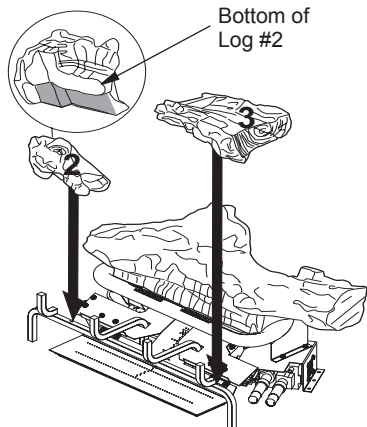

Figure 22 - Installing Logs #2 and #3
2. Place left bottom log (#2) onto base assembly as shown in Figure 22, page 18. See detail in drawing for contour on bottom of log. Log will fit over metal brackets and flat onto base assembly